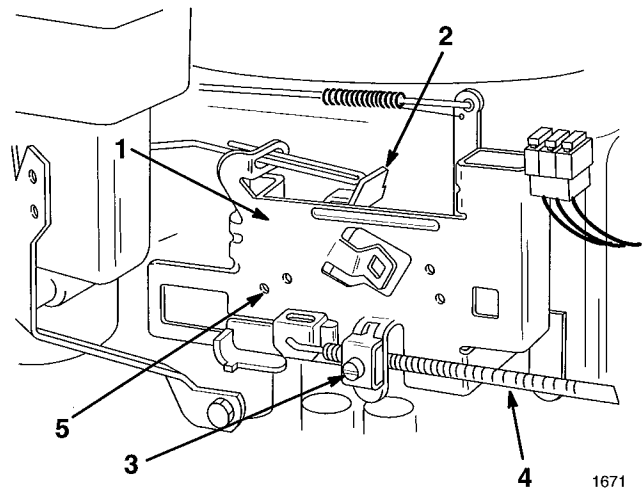

Figure 24
- B. With the throttle in the “FAST” position, index holes in the governor control lever and the governor plate must align (Fig. 24). If they do not align, refer to step 4 for adjustment procedure.
- B. Loosen the throttle cable clamp screw until you can slide the throttle cable casing (Fig. 24).
- C. Move the throttle cable casing until the index holes in the governor control lever and the governor plate align (Fig. 24). Now tighten the cable clamp screw.